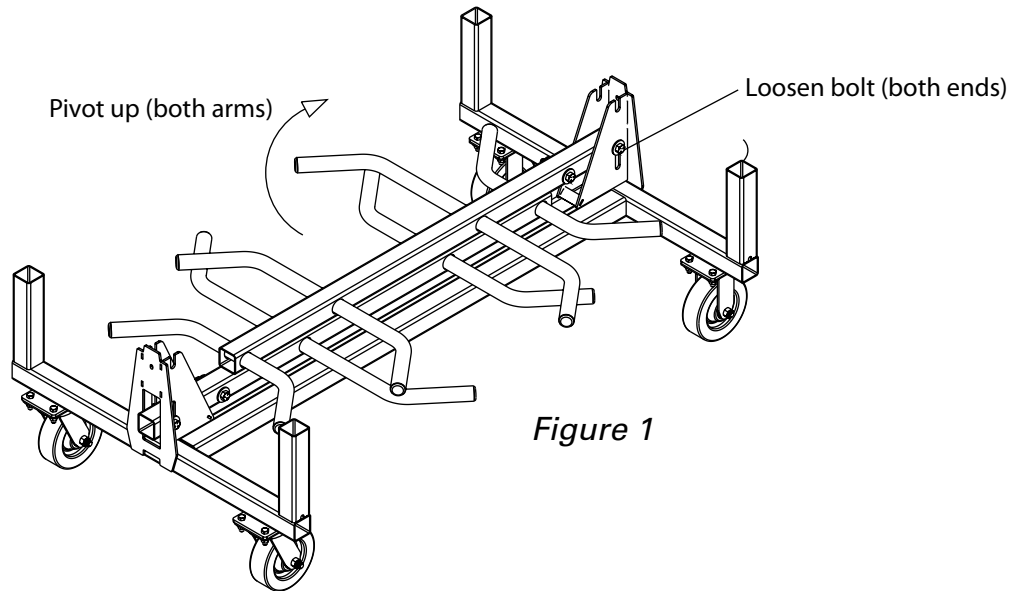

Figure 1
2. Loosen the bolt at the base of both arms and pivot the arms upward. (See Assembly Figure 1).